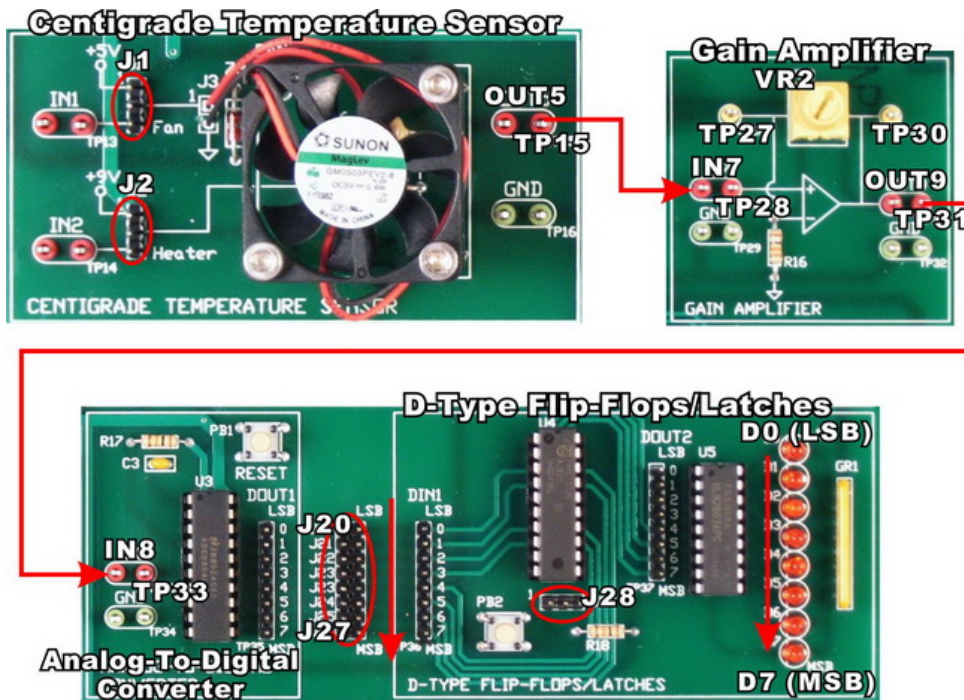

Figure 5 – Circuit Connections for the Centigrade Temperature Sensor Test
3. Connect the Centigrade Temperature Sensor, the Gain Amplifier, Analog-To-Digital Converter and the Buzzer Circuit as shown in Figure 5.
5. Connect all jumpers from **J20** to **J27** as shown in Figure 5 if they are not yet connected.